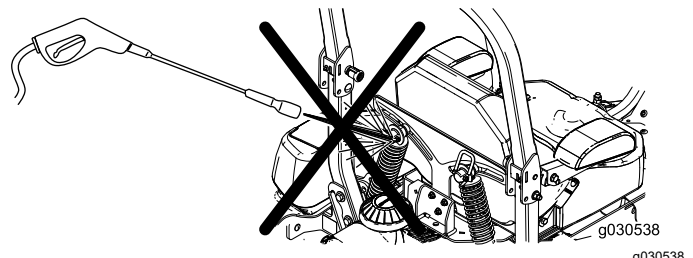

Figure 107
**Note:** Do not clean the shock assemblies with pressurized water (Figure 107).